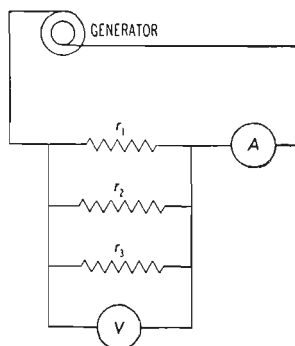

Fig. 26.6. A circuit containing a generator, resistances in parallel, an ammeter, and a voltmeter.
**154. Resistances in Parallel.** If several resistances are connected in parallel as in Figure 26.6 it is found by experiment that *the total current is equal to the sum of the individual currents.*